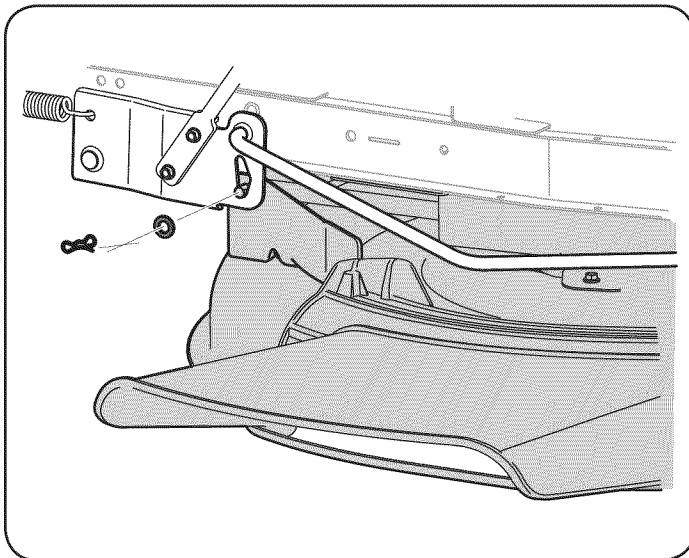

Figure 32
4. Remove the bow-tie cotter pin and flat washer from the deck lift assembly, and retain for reinstallation later. See Fig. 32.